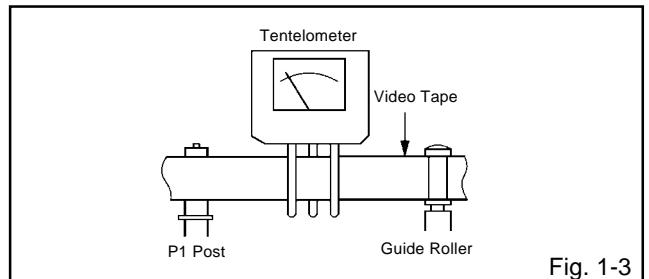

Fig. 1-3
2. Install the tentelometer as shown in **Fig. 1-3**. Confirm that the meter indicates  $20 \pm 2\text{gf}$  in the beginning of playback.